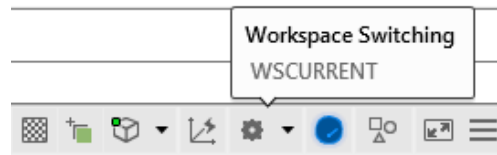

Figure Step 11
Step 11 Click the small arrow in the Workplace Switching icon on the Status bar located along the bottom of the Graphic window. (Figure Step 11)